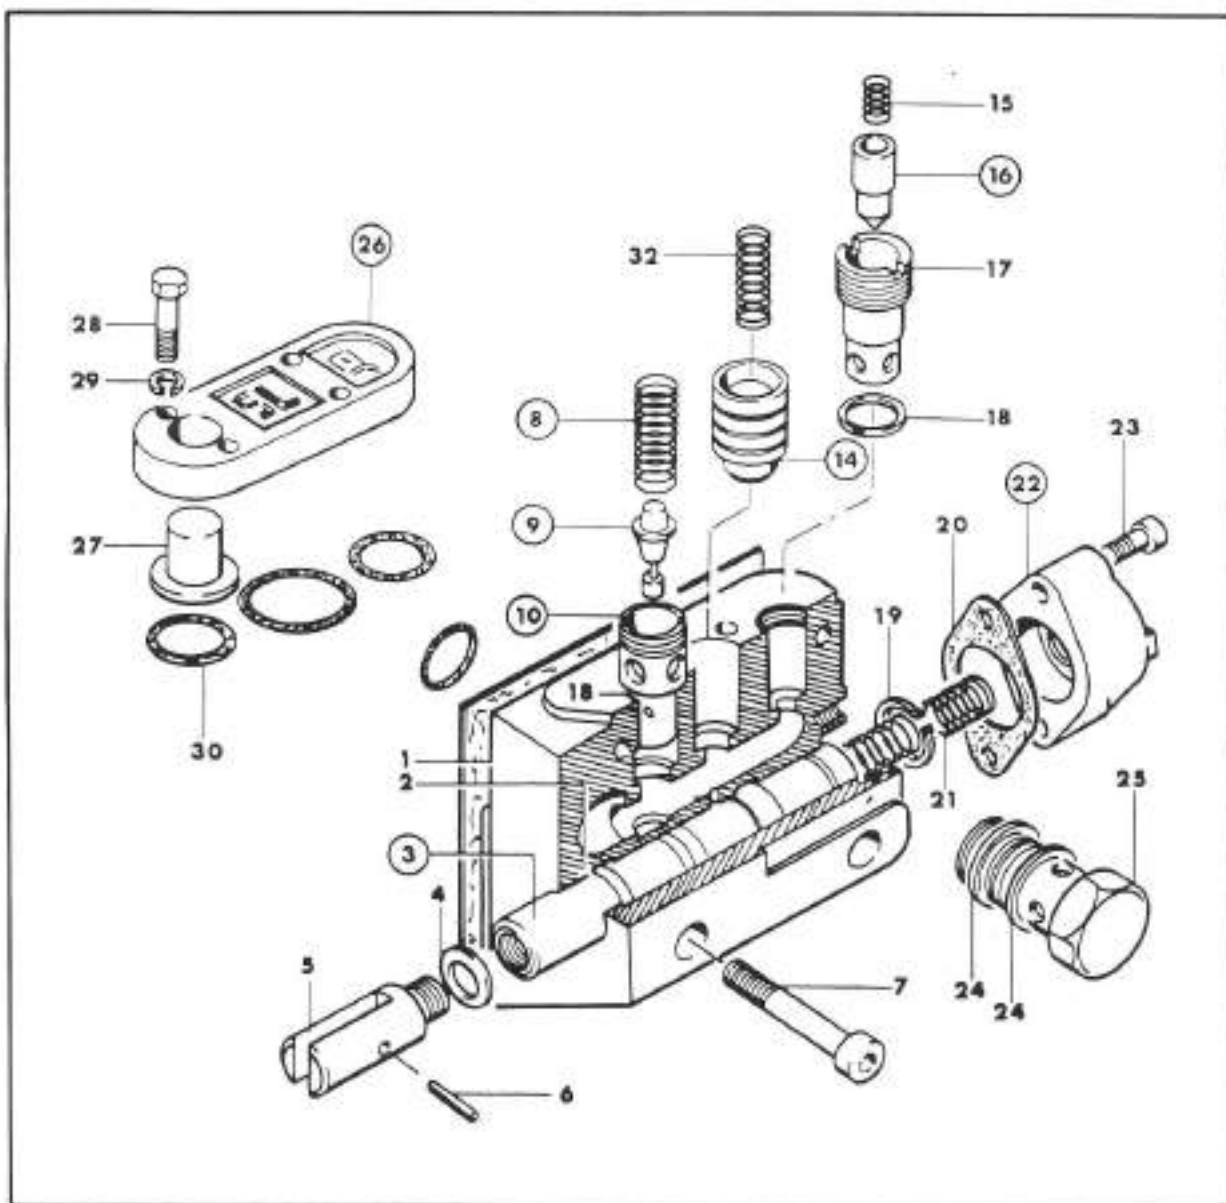

Fig. 3-81. Power - lift distributor - tractor Mod. 75
Refer to figure 3-81.
The lift does not raise even without a load.	<ol style="list-style-type: none"> <li>1. Lack of oil. Restore the oil level.</li> <li>2. Jamming pilot valve (14; fig. 3-81) caused by impurities contained in the oil. Unscrew the four screws holding the cover (26) then unblock and clean the valve. To prevent the repetition of this problem, carefully clean the return oil filter cartridge (figure 3-76).</li> </ol>